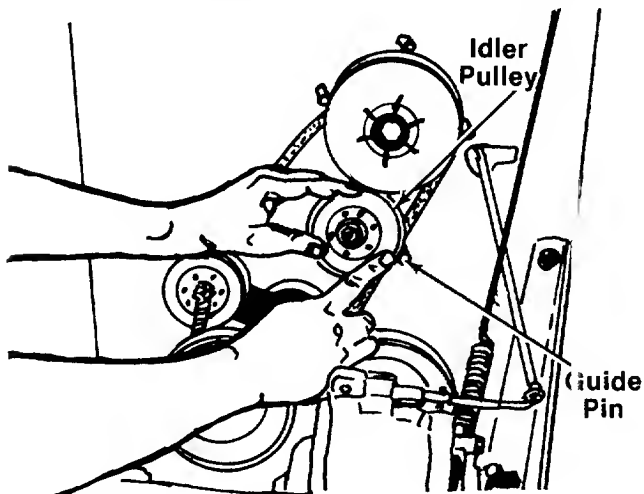

FIGURE 37.
13. When sliding the idler pulley on the idler bracket, be certain the belt is between the pulley and guide pin. See figure 37.